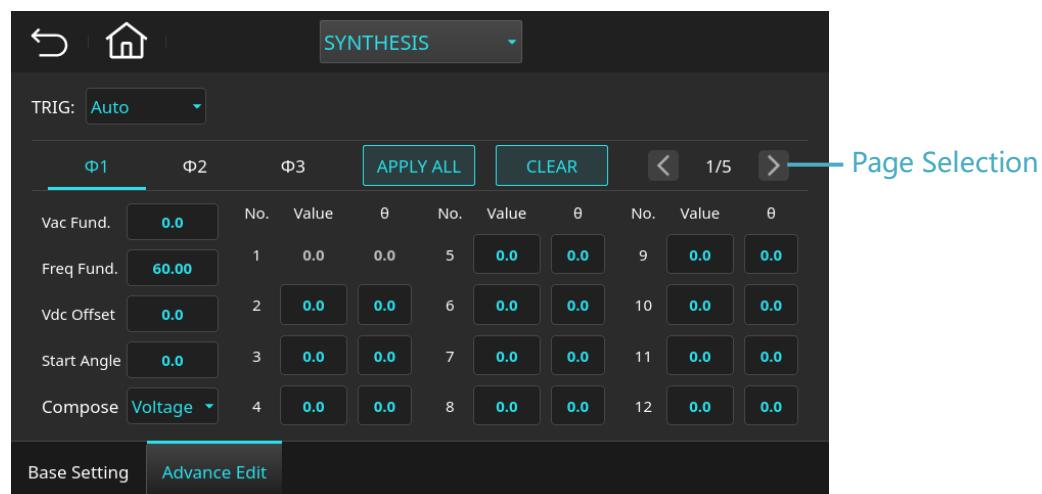

Figure 5-24 Synthesis Mode Setting Page
**BASE MODE**  to open the dropdown menu and select “SYNTHESIS” to enter Synthesis Mode, as shown in Figure 5-24.